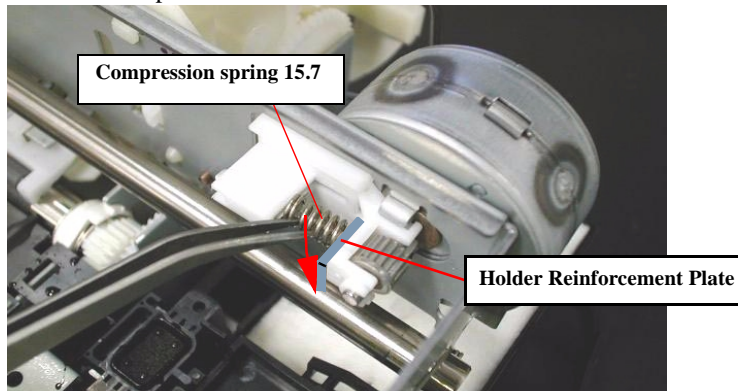

Figure 4-9. Remove the Compression spring 15.7
- **Make sure to set the Holder reinforcement plate with the Compression spring 15.7. Refer to Figure4-9.**